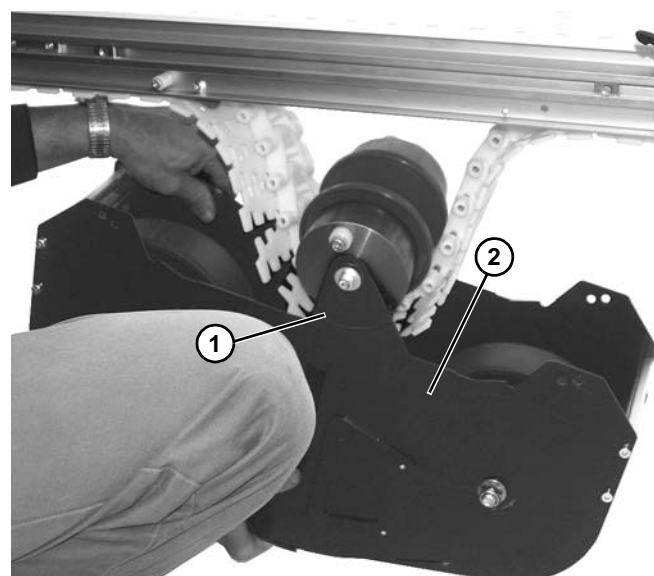

Figure 60
3. Raise weighted take up box assembly, with plate (**Figure 60, item 1**) on idler pulley assembly on outside of outer plate (**Figure 60, item 2**) of weighted take up assembly.